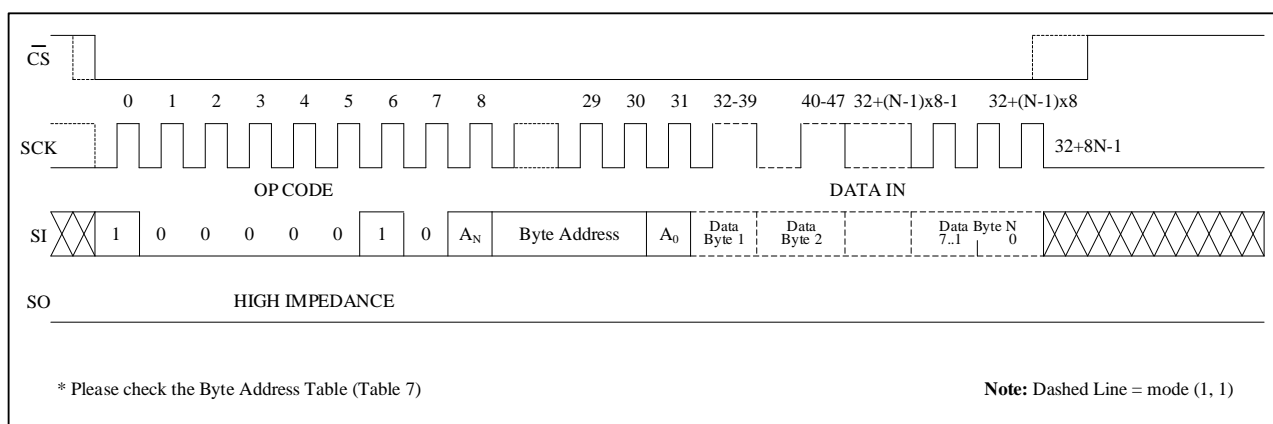

Figure 6
Write Identification Page: The additional 256-byte Identification Page (IP) (256 bytes) is an additional page which can be written and (later) permanently locked in Read-only mode. Writing this page is achieved with the Write Identification Page instruction, according to timing shown in Figure 6. Address bit A10 must be 0, upper address bits are Don't Care, the lower address bits [A7:A0] address bits define the byte address inside the identification page. The byte address must not exceed the 256-byte page boundary.
Write Status Register : The Status Register is written by sending a WRSR instruction according to timing shown in Figure 6. Only bits 2, 3, 4, 5, 6 and 7 can be written using the WRSR command.